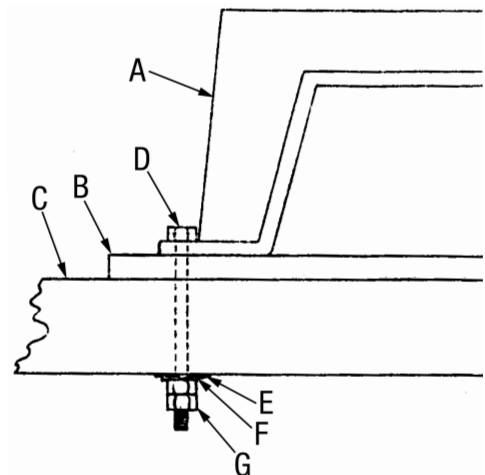

FIGURE 5
- 1) Mounting your Scroll Saw base (A) Fig.5 to a workbench (C), a solid bench is preferable over a plywood bench where noise and vibration will be more noticeable.
- 2) The hardware to mount this Scroll Saw to a workbench is NOT SUPPLIED. However, we recommend the hardware used be no smaller than the following: 4 x hex. bolts - 1/4 - 20 (D), 4 x washers 9/32" (E), 4 x spring washers 9/32" (F), 8 x hex. nuts 1/4 - 20 (G).
- 3) A soft foam pad (B) Fig.5 placed between your Scroll Saw and your workbench is not supplied but we recommend the use of such a pad to reduce noise and vibration.